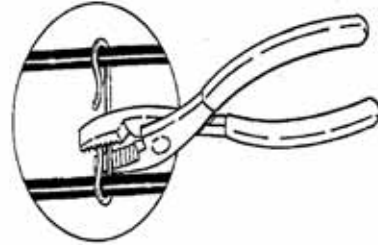

Figure 18. Squeezing spacers with pliers
- While the cable is being laid in the gutter, the spacers can be tightened with fingers or pliers. If you use pliers, squeeze gently and use care to avoid pinching, crimping, cutting into or otherwise damaging the cable (see Figure 18). Do not use a hammer to tighten the clips and spacers.